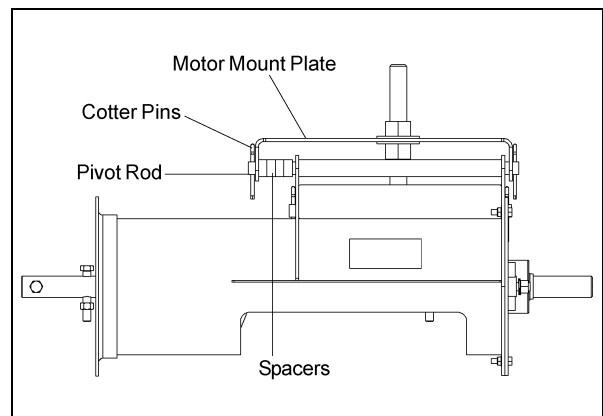

Figure 4L
- D. When the pivot rod begins to extend through the pivot tube install the spacers, BETWEEN the Back Plate and the inner face of the Motor Mount Plate. (See Figure 4L)